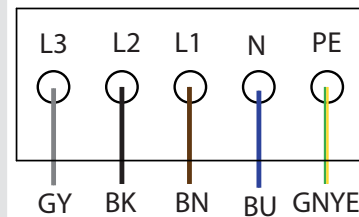

Figure 14: AC connection terminals
- 6. Connect the cables in accordance with the label on the PCB terminals (Figure 14 on page 18).